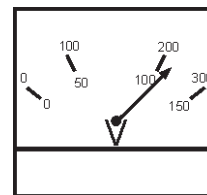
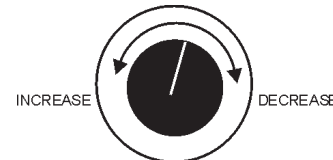

Figure 51. AC Voltmeter
Figure 52. Voltage Adjust Control Knob
12. The generator's AC-voltmeter (Figure 51) will display the generator's output in **VOLTS**. If the voltage is not within the specified tolerance, use the voltage adjustment control knob (Figure 52) to increase or decrease the desired voltage.